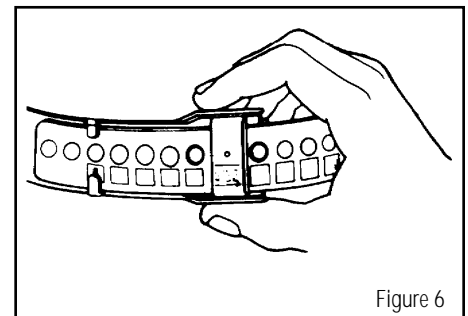

Figure 6
5. Place the headband on your head. Pull down, allowing headband to expand until it feels comfortable. Headband automatically adjusts to your size and locks when you release your grip. (Figure 6)